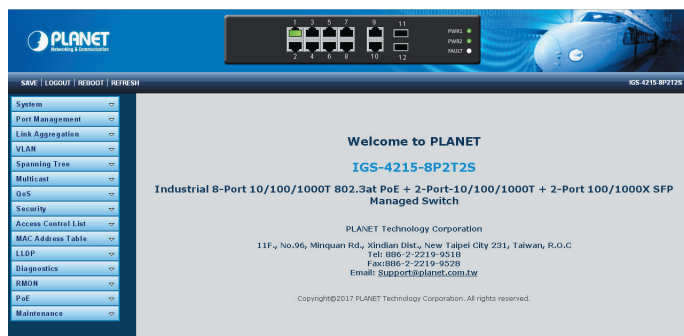

Figure 8-3: Web Main Screen of Industrial Managed PoE+ Switch
3. After entering the password, the main screen appears as Figure 8-3 shows.